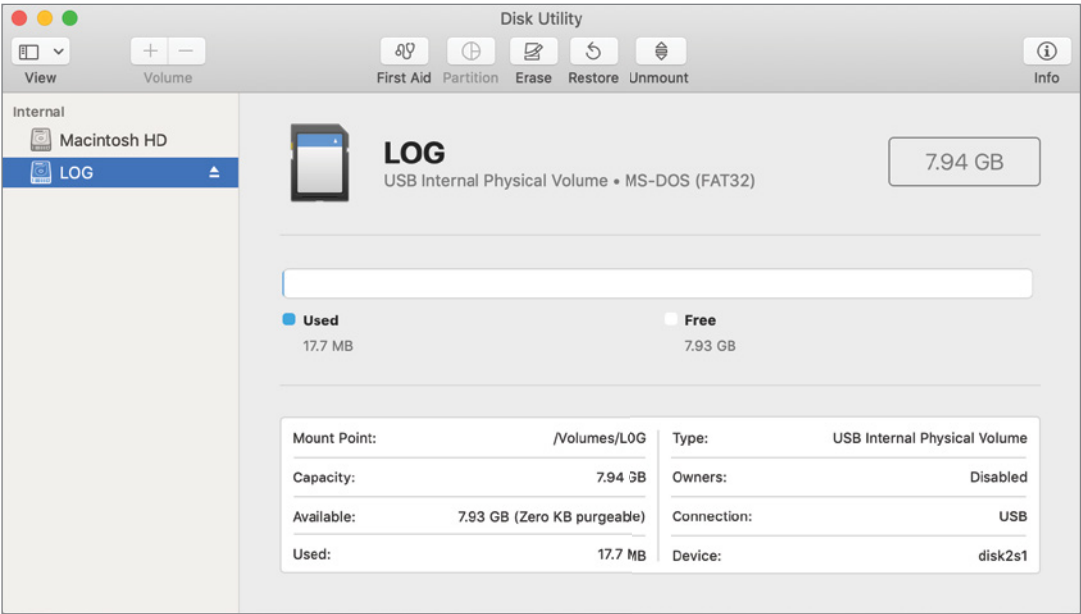

Figure 14-4: Disk Utility application with a card selected
1. Insert the SD card. Use Finder (click the Magnifier Glass icon on the toolbar) to search for and open the Disk Utility application. Then select the card in the left menu (see Figure 14-4).